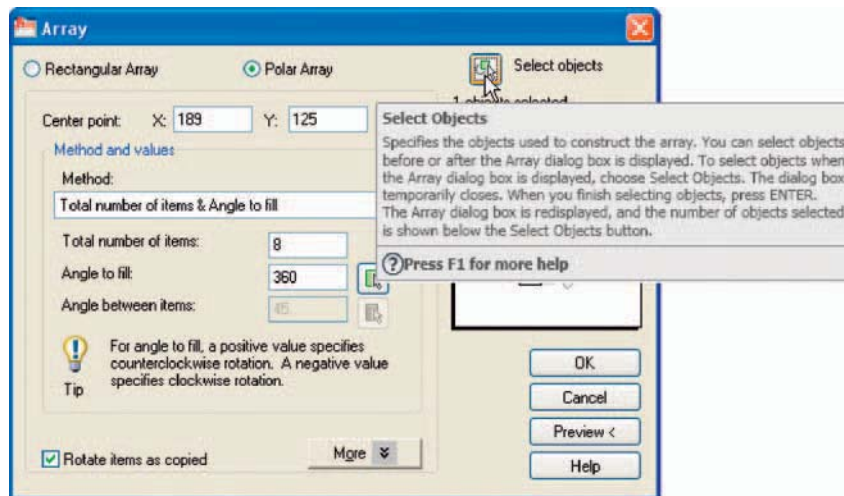

Fig. 5.20 Second example – Array – settings in the dialog
2. Call **Array**. The **Array** dialog appears. Make settings as shown in Fig. 5.20.